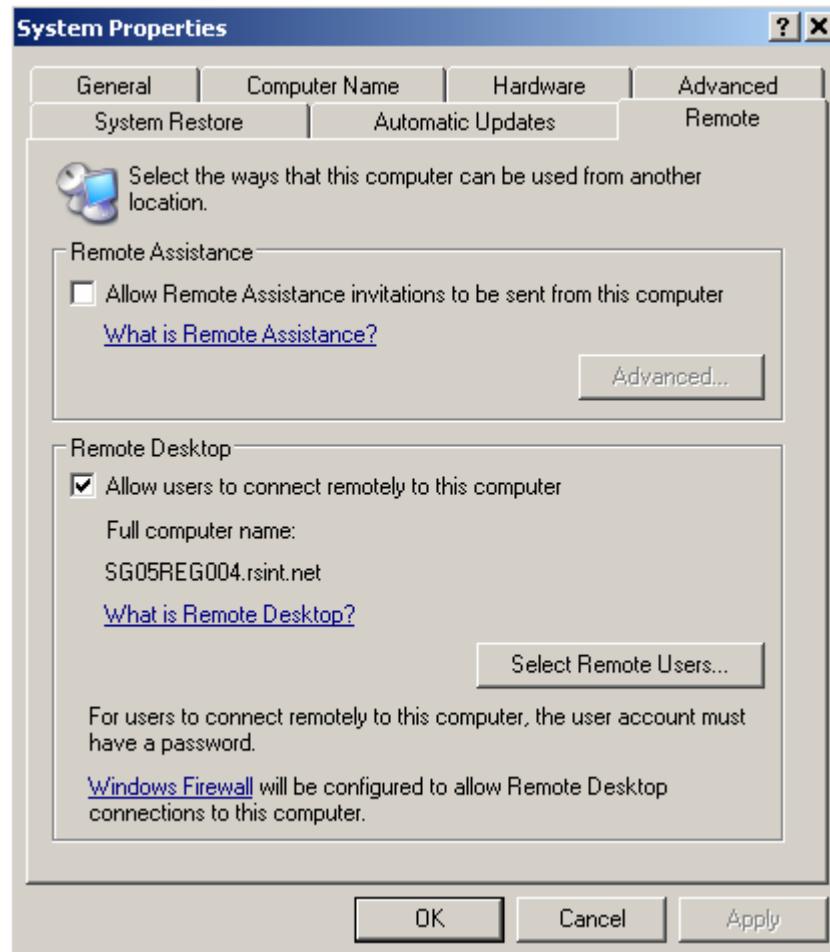

Fig. 4.6 Enable Remote connection
- The instrument should allow remote connection (see Fig. 4.6).